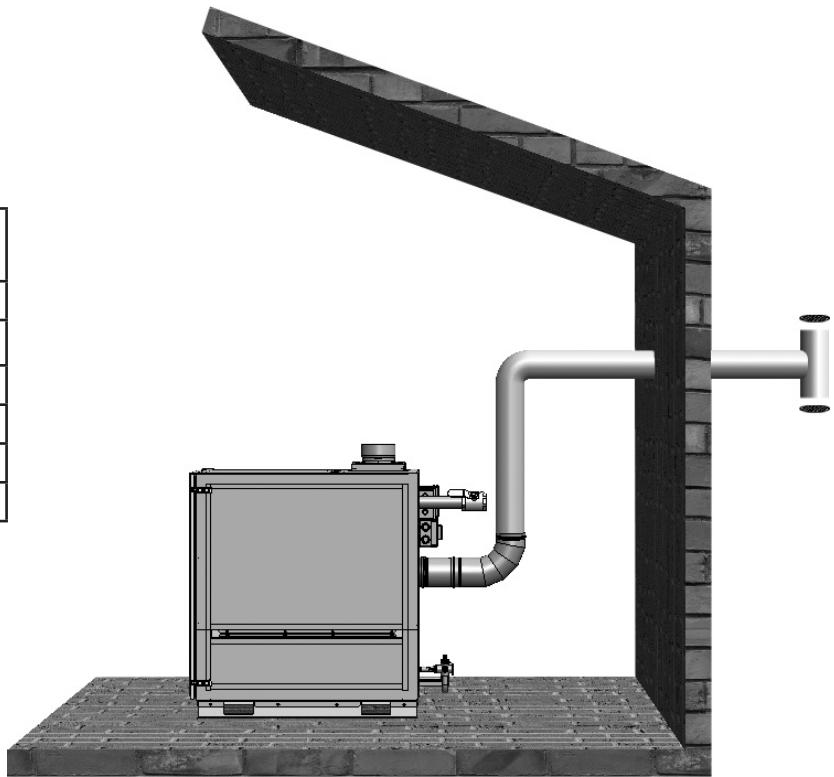

FIGURE 26. HORIZONTAL VENTING
- Through-the-Wall Termination (TWT)** - horizontal vent termination directly through an outside wall, see Figure 26 on Page 28.